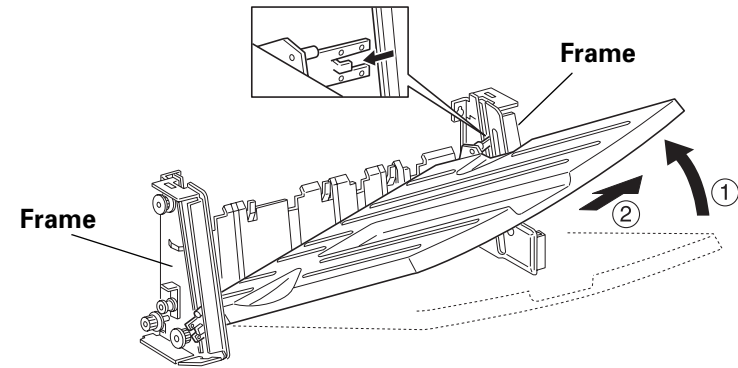

Figure 1
5. Remove the Tray by sliding it off from the grooves of the Front Tray frame and the Rear Tray frame. (Figure 1)